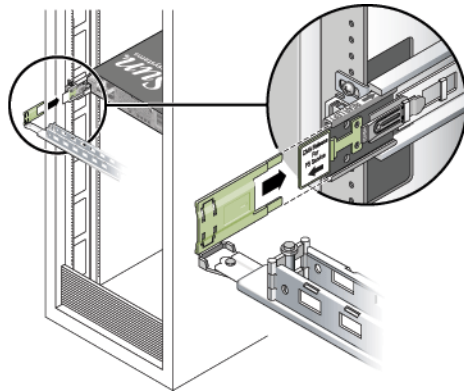

FIGURE 2-6 Connecting the CMA Arm to Rail Extension Connector
5. Insert the remaining CMA arm connector into the plastic cutout on the CMA rail extension (FIGURE 2-6).